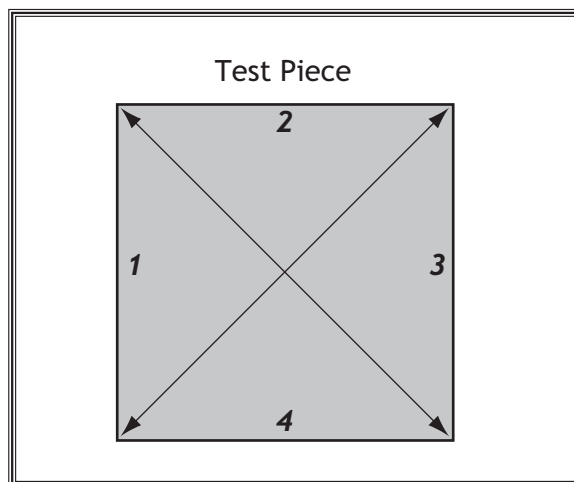

Figure 126. Fence adjustment test piece.
4. Measure the test piece diagonally from corner-to-corner as shown in **Figure 126**.